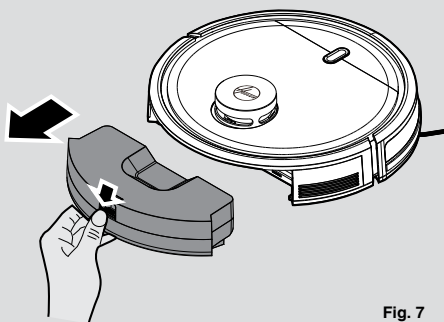

Fig. 7
2. If extra maintenance is needed, press the released button and pull out the dust container. [Fig. 7]
1. After vacuuming, remove the dust container, press the release button and pull it out. [Fig. 7]